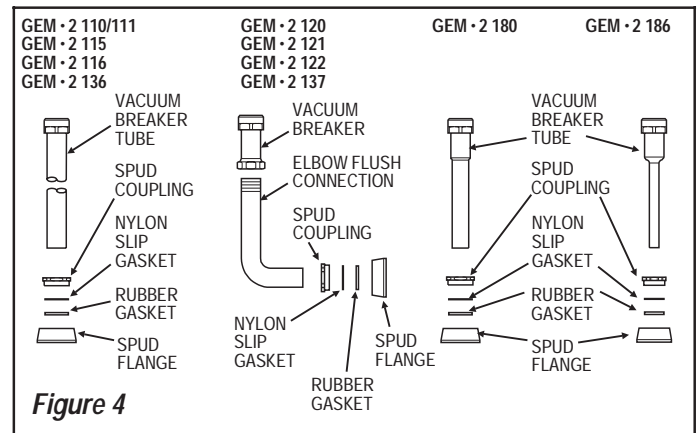

**Figure 3**
**For Sweat Solder applications, refer to the following instructions and Figure 3:**
- Determine length of Covering Tube by measuring distance from finished wall to the first thread of Adapter (dimension "X" in Figure 3). Cut Covering Tube to this length.